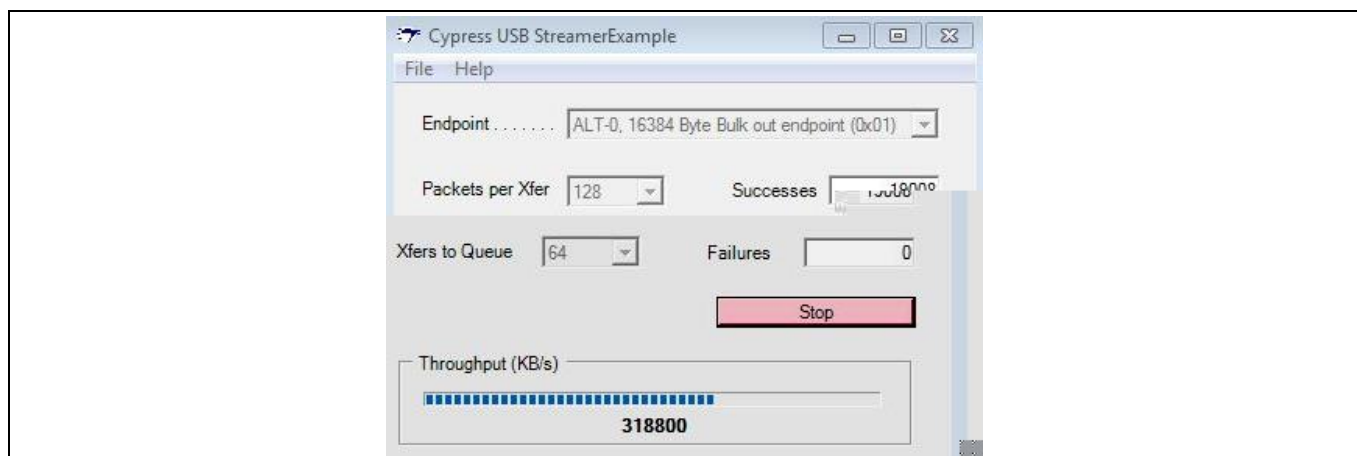

Figure 56 Streaming OUT performance in streamer utility
5. In the stream OUT case, the FPGA is already in a state where it is waiting for FLAGC to equal 1. As soon as the data is available, the FPGA will start reading continuously from FX3's PIB_SOCKET_3. From the USB host, you can issue continuous Bulk OUT transfers. Select the BULK OUT endpoint in the streamer utility and click **Start**. The performance number is displayed. The performance shown in Figure 56 is observed on a Win7 64-bit PC with an Intel Z77 Express Chipset.